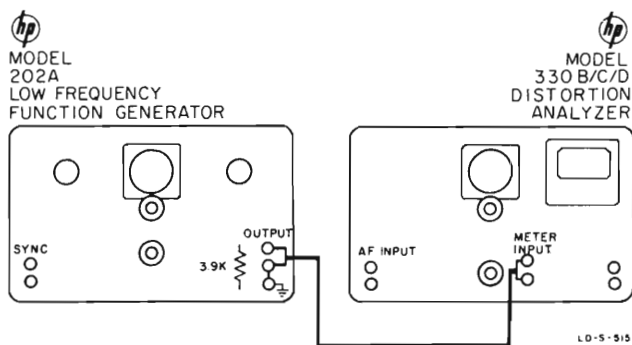

Figure 4-5. Sine Wave Distortion Test Setup
- 1) Connect test setup as shown in figure 4-5, including a 3.9K ohm shunt resistor across the OUTPUT terminals of Model 202A.